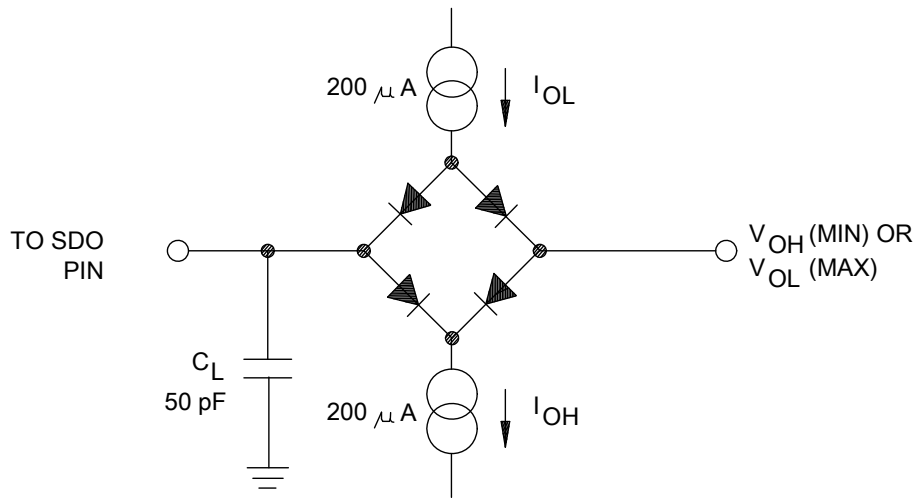

FIGURE 5. Load circuit for SDO timing diagram.
- 9/ Measured with the load circuit of Figure 5.